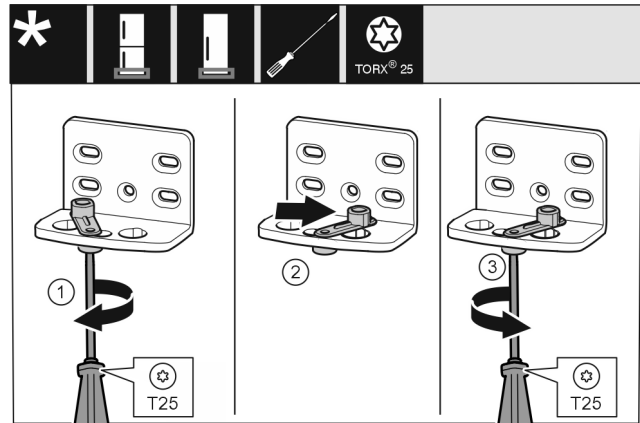

Fig. 12
- ▶ Loosen the screw using a T25 screwdriver. Fig. 12 (1)
- ▶ Lift the door closing aid and turn it 90° to the right in the hole. Fig. 12 (2)
- ▶ Tighten the screw using the T25 screwdriver. Fig. 12 (3)